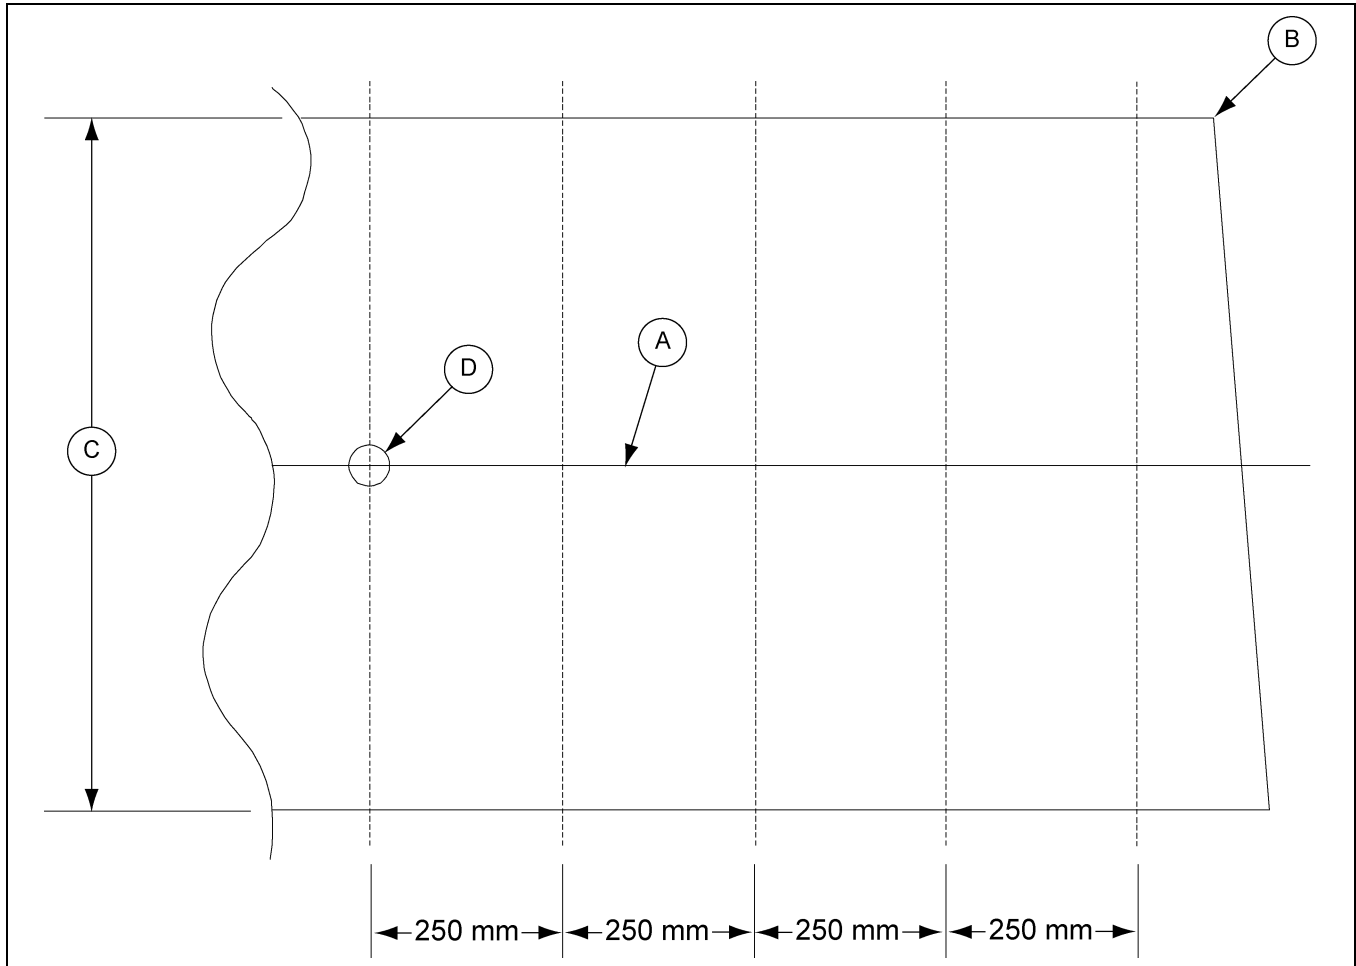

Figure 6A
- To find the belt centerline, measure the belt width at five (5) points. Starting near the end of the belt, measure the belt width in 250 mm intervals, marking them as you measure. Each measurement shall then be divided in two (2) and marked. Using a straight edge, draw a centerline using the points as a guide. (See Figure 6A.)